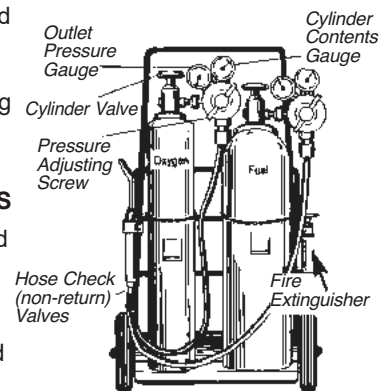

Figure 15
- Use oxygen and acetylene cylinders in a proper buggy equipped with a fire extinguisher (Figure 15). Secure cylinders upright.